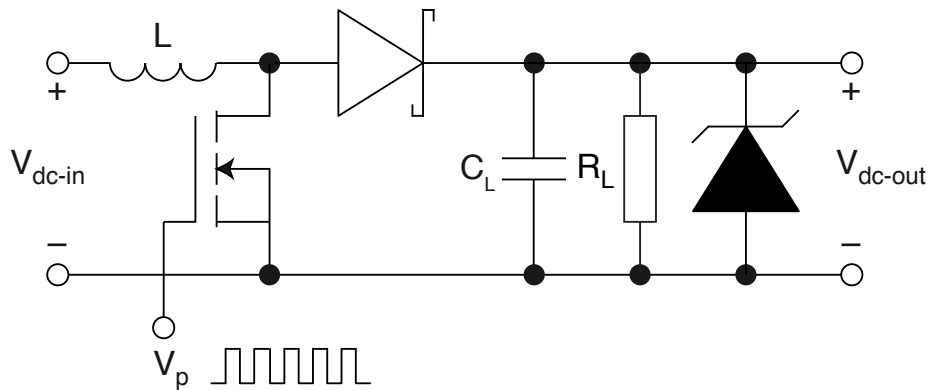
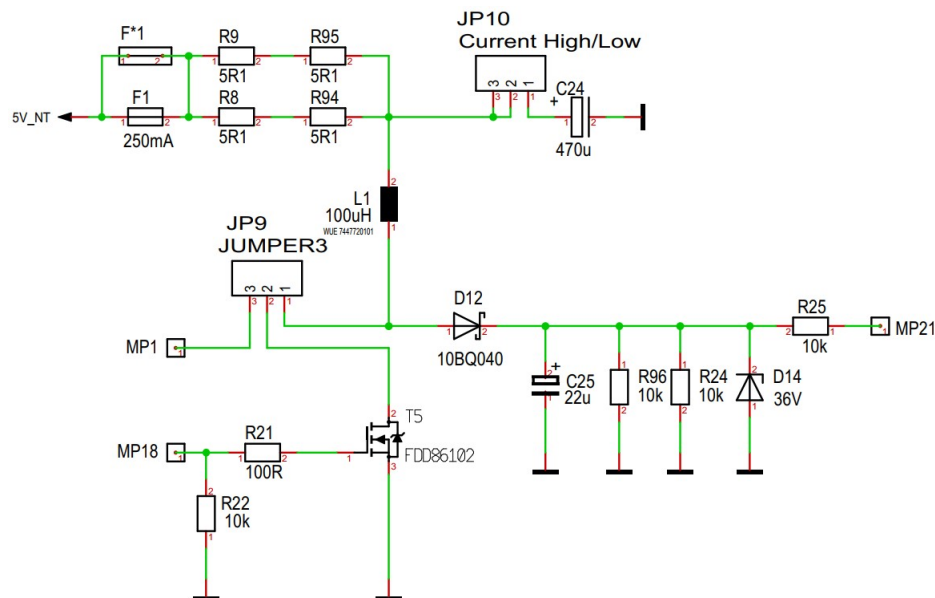

Figure 3.4.1: A basic step-up converter
Figure 3.4.2: Schematic of the *step-up converter* circuit
A simple step-up voltage converter circuit is shown in Figure 3.4.1. The MOSFET is essentially a switch which alternately generates a short or an open circuit. When the MOSFET is on (a short circuit), a current from the input flows through the coil and the transistor, establishing a magnetic field in the inductor. When the MOSFET switches off (an open circuit), the stored energy in the coil results in a current flow through the Schottky diode, charging the capacitor. When the MOSFET switches on again, the cycle repeats. The increasing charge on the capacitor generates the higher output voltage  $V_{dc-out}$ .
- Set up a SPICE simulation of the step-up converter circuit of Figure 3.4.1, which corresponds to the circuit on the electronics board (Figure 3.4.2). Use the FDD86102 power MOSFET (download the model file). Take  $L = 100 \mu\text{H}$ ,  $C_L = 22 \mu\text{F}$  and  $R_L = 5 \text{k}\Omega$  in parallel to the capacitor. For the Schottky diode, use a 10BQ040 (download the model file) and for the Zener diode a BZX84B36VL (with  $V_Z = 36 \text{ V}$ , in the LTSpice library).
In the “MOSFET” section of the electronics board, we will use the *step-up converter* circuit, shown in Figure 3.4.2.